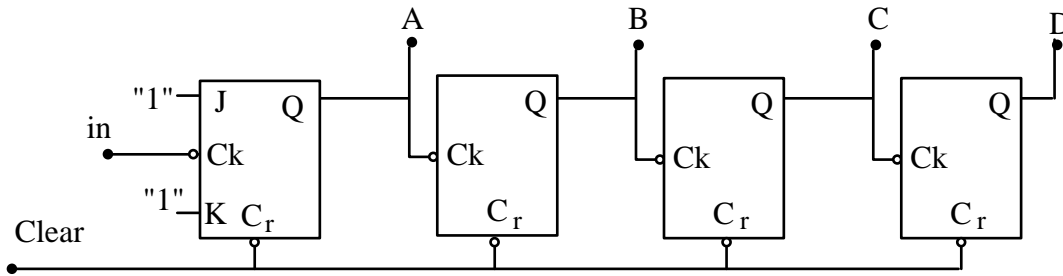

Fig. 13 Binary Ripple Counter Circuit using J-K Flip-Flops.
- a.) Using EWB, design the circuit shown below in Fig. 13 and verify that it functions as a binary counter. Note that all J and K inputs should be held at logic “1”. Reset the counter with the C_r input. Would this circuit work with D-type flip-flops?